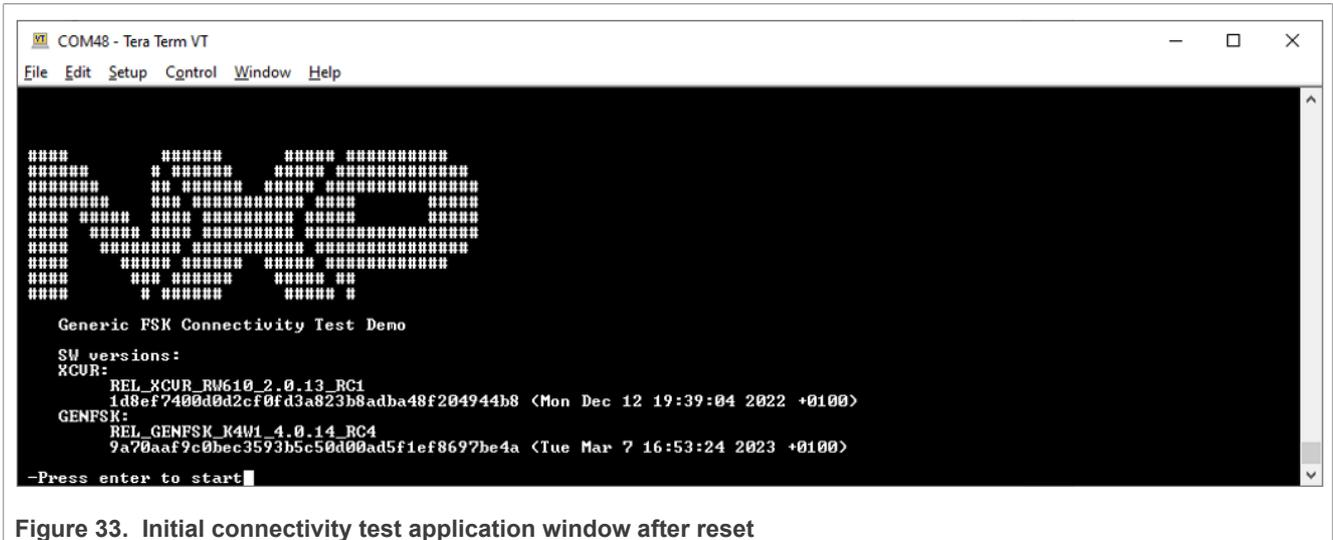

Figure 33. Initial connectivity test application window after reset
- Push the SW1 (RST_SW) button to reset the board. The window shown in Figure 33 appears.